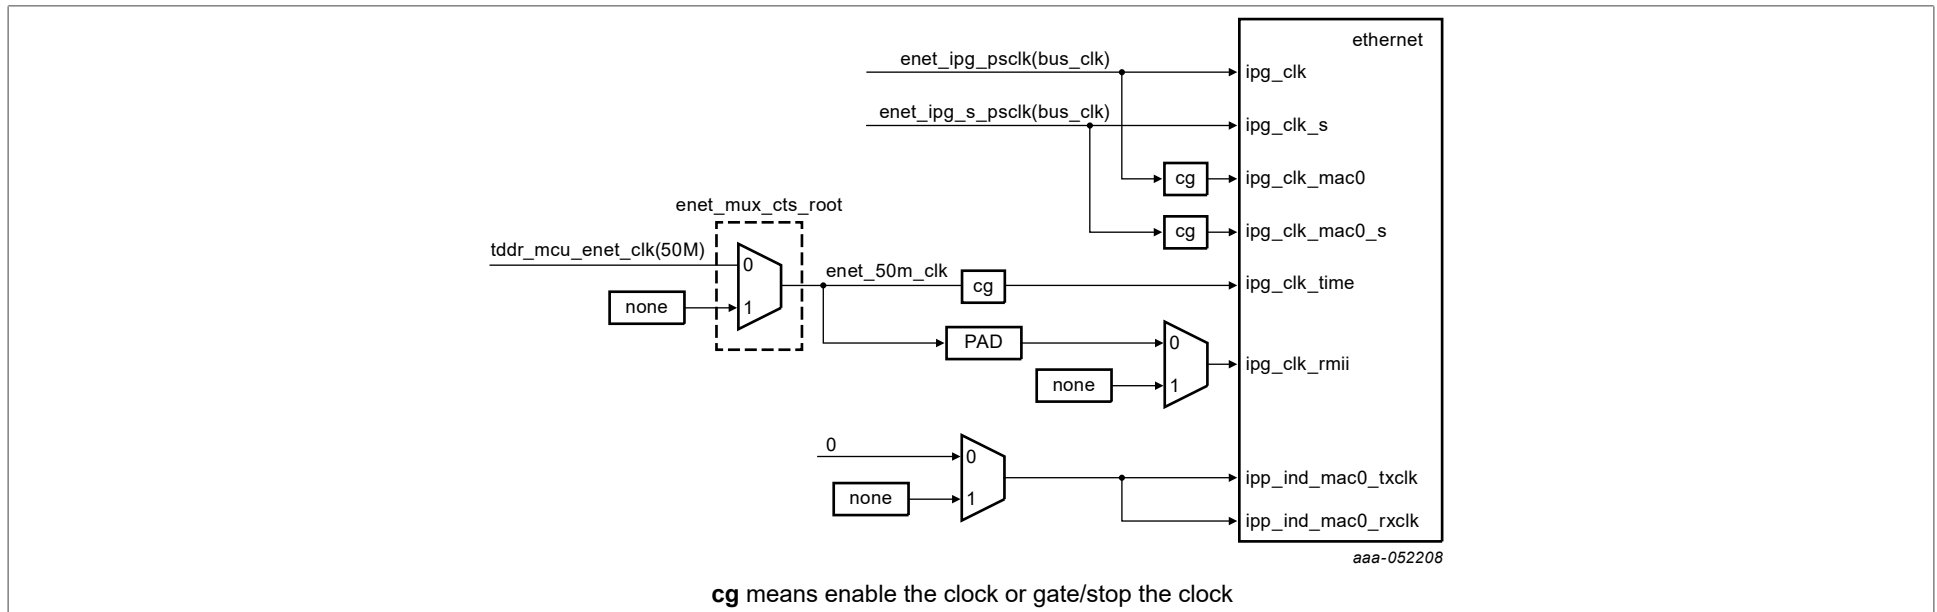

Figure 12. Clock generation - Ethernet
- Figure 12 "Clock generation - Ethernet"